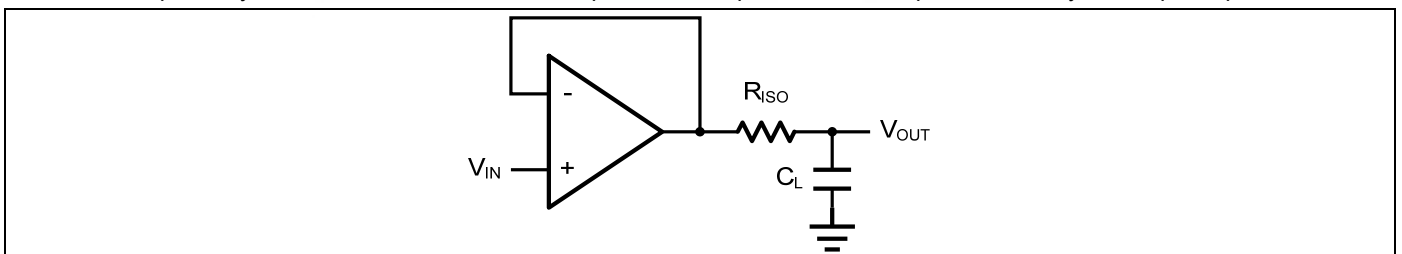
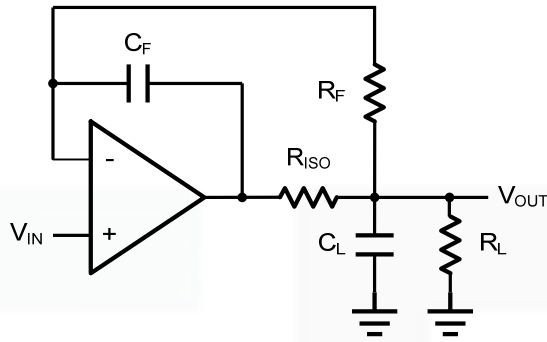

Figure 2. Indirectly Driving a Capacitive Load Using Isolation Resistor
Figure 3. Indirectly Driving a Capacitive Load with DC Accuracy
The GS833X family is optimized for bandwidth and speed, not for driving capacitive loads. Output capacitance will create a pole in the amplifier's feedback path, leading to excessive peaking and potential oscillation. If dealing with load capacitance is a requirement of the application, the two strategies to consider are (1) using a small resistor in series with the amplifier's output and the load capacitance and (2) reducing the bandwidth of the amplifier's feedback loop by increasing the overall noise gain. Figure 2. shows a unity gain follower using the series resistor strategy. The resistor isolates the output from the capacitance and, more importantly, creates a zero in the feedback path that compensates for the pole created by the output capacitance.
The circuit in Figure 3 is an improvement to the one in Figure 2. R_F provides the DC accuracy by feed-forward the V_{IN} to R_L . C_F and R_{ISO} serve to counteract the loss of phase margin by feeding the high frequency component of the output signal back to the amplifier's inverting input, thereby preserving the phase margin in the overall feedback loop. Capacitive drive can be increased by increasing the value of C_F . This in turn will slow down the pulse response.